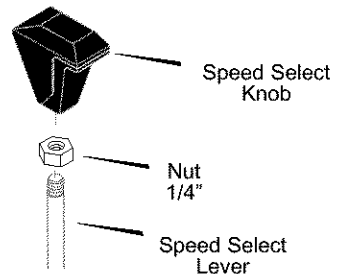

Figure 8
1. Install the **nut** onto the **lever**. See Figure 8.